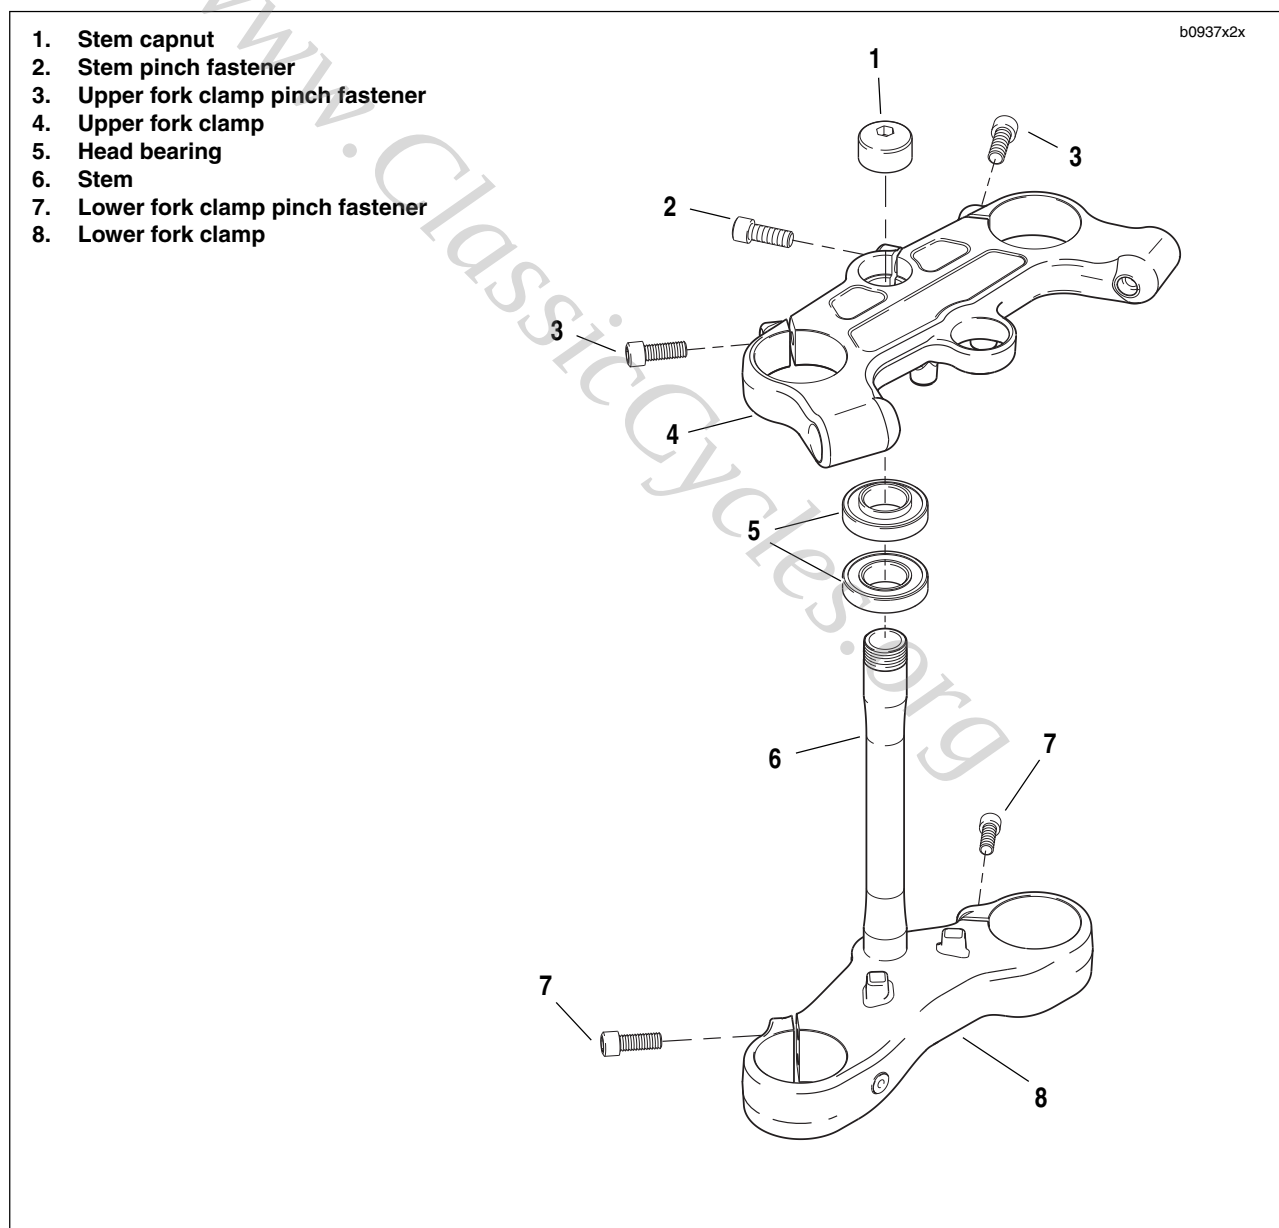
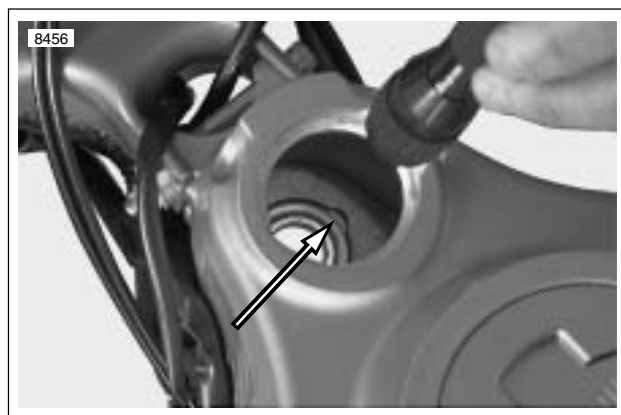

Figure 2-75. Steering Stem Assembly
Figure 2-76. Lower Steering Head Bearing Notches
5. See Figure 2-75. Remove steering stem pinch fastener (2).
8. See Figure 2-75. Hold or brace the lower fork clamp and remove steering stem cap (1).
9. Remove the upper fork clamp (4).
10. Remove the lower fork clamp (8).
1. See Figure 2-75. Install the lower fork clamp (8) into the steering stem bore and install the upper fork clamp (4).
2. Install steering stem cap (1). Thread on by hand but do not torque.
- a. See Figure 2-75. Loosen steering stem pinch fastener (2) and upper and lower fork clamp pinch fasteners (3, 7).
- b. Brace wheel while removing steering stem capnut fastener (1).
- c. Remove upper fork clamp (4) and front-end assembly which includes front wheel, steering stem/lower fork clamp.
5. Remove upper and lower steering head bearings (5).
- a. See Figure 2-76. Locate notches inside steering head stem bore (upper bearing removed for clarity).